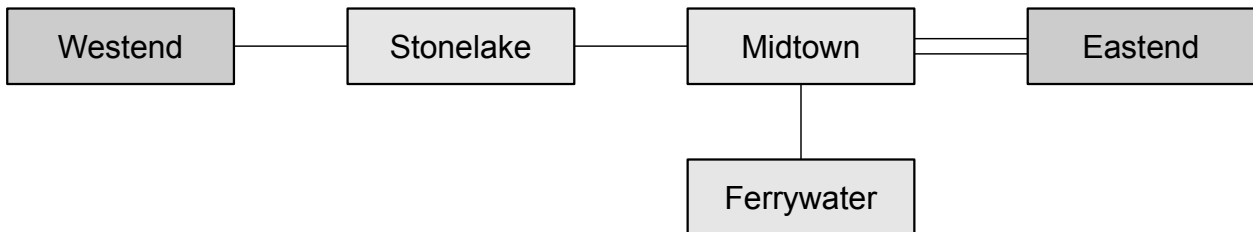

Figure 5: Example arrangement.
Throughout the manual an example arrangement will be used to illustrate XPLN. The arrangement is illustrated in Figure 5 and it consists of a mainline between two fiddle yards with a branch line to a town with a train ferry. The mainline is electrified and single tracked from Westend to Midtown and double tracked from Midtown to Eastend. The branch line is not electrified and it is single tracked. On the arrangement four types of trains are run, express passenger trains (E), passenger trains (P), freight trains (F), and local freight trains (Lf).